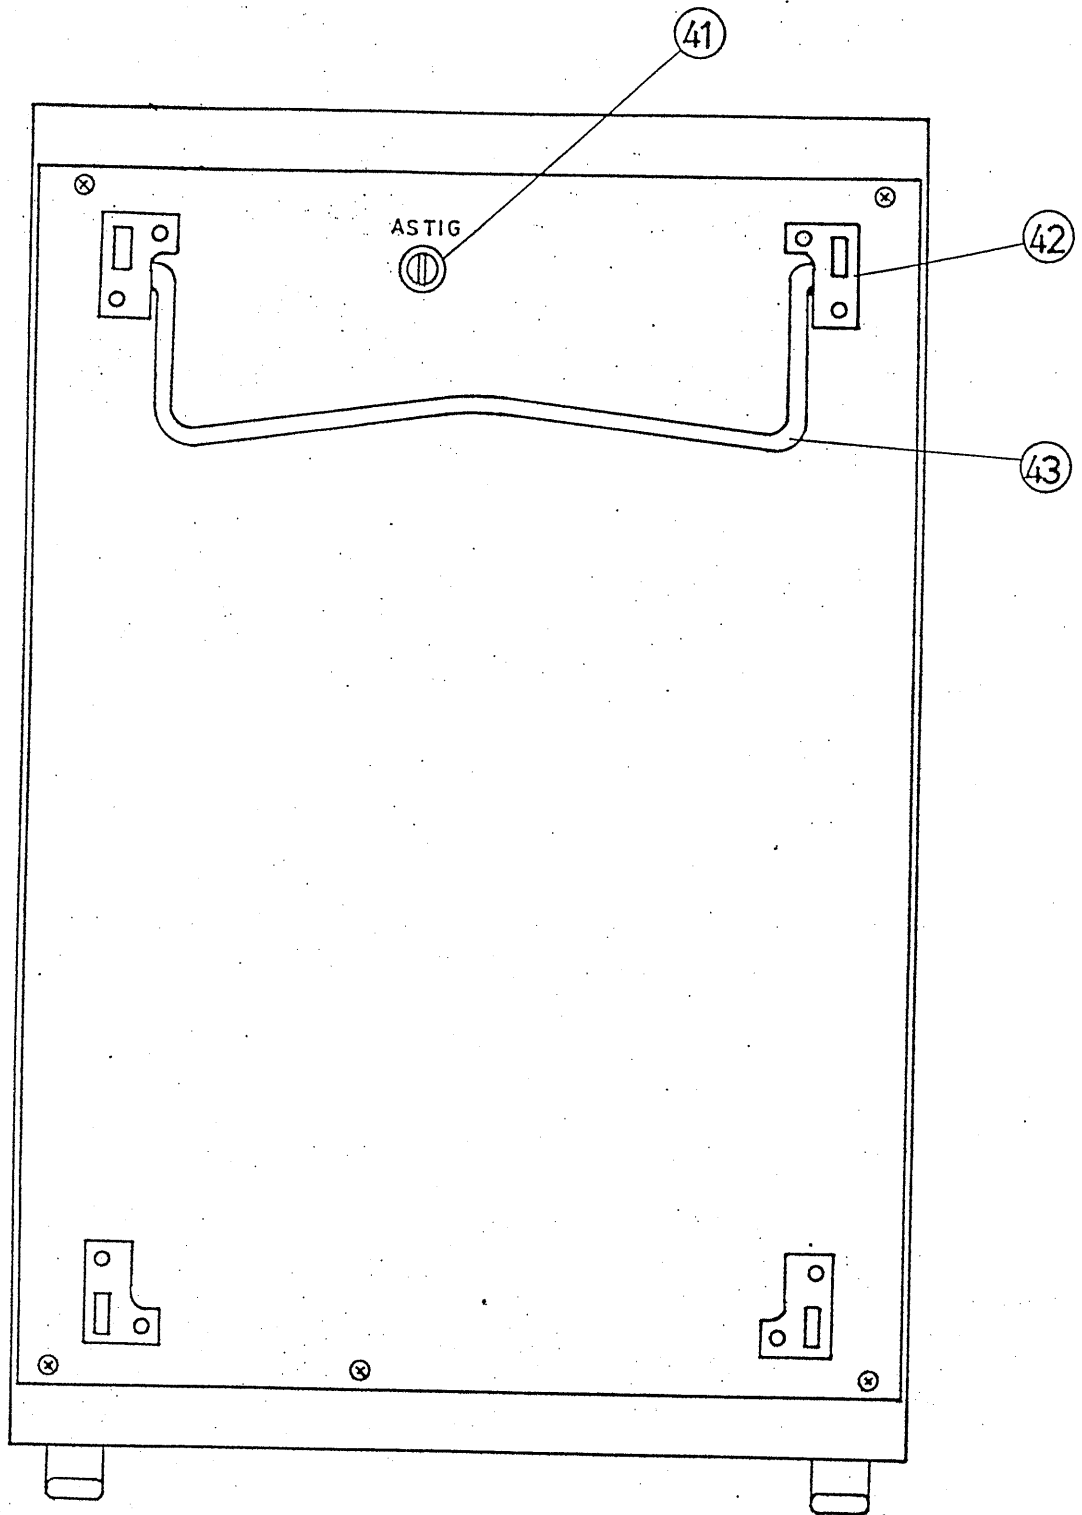

Fig. 3
③⑤	—	Power cord with plug.
③⑥	—	Cord winders combined with feet. They are used as feet, when the instrument is vertically stood.
③⑦	Z AXIS INPUT	Input terminals (Binding-posts) for external intensity modulation. This function is used for intensity modulation by external signal or a marker indication by intensity modulation. When no intensity modulation is made, ③⑦ and ③⑧ must be shorted with the short-bar.
③⑧	—	Terminal connected to the chassis (GND). Distance between ③⑧ and ③⑦ is 19mm for the convenience of using it with ③⑦.
③⑨	(Fuse)	Fuse holder. Fuse of 0.5A is used for line voltage of 100V ~ 120V and fuse of 0.3A is used for 220V ~ 240V. The fuse is taken up by turning the cap leftwards.
3.3 Explanation of bottom panel (Refer to Fig. 3)